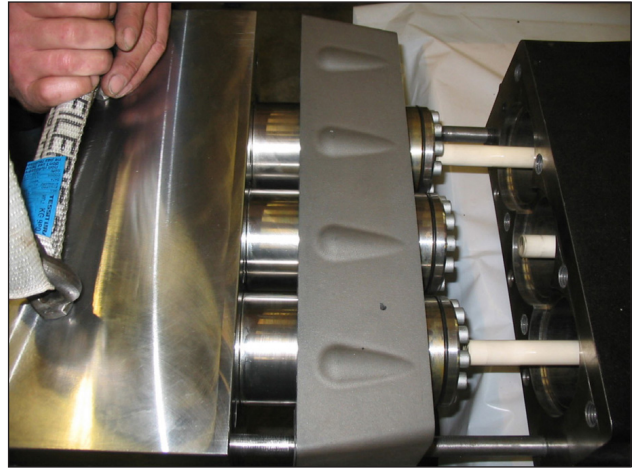

Fig. 97
Separate the head and the spacer for the liners from the pump casing (pos. ①, Fig. 97).